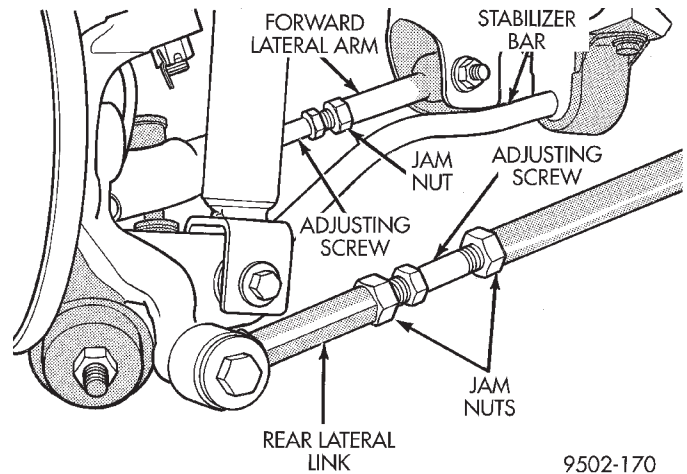

Fig. 2 Lateral Arm Adjusting Screw Jam Nuts
adjusting screw located in the forward and rear lateral links of the vehicles rear suspension (Fig. 2).
CAUTION: Do not attempt to straighten or repair a lateral link. Do not apply heat to the lateral link adjusting screws or to the jam nuts, (Fig. 2) when loosening or adjusting the lateral links.
- (3) Loosen the adjusting screw jam nuts (Fig. 2) on all 4 of the rear lateral arm adjusting screws.
(4) Rough in Rear Camber setting as close as possible to the preferred specification first, by mainly adjusting the rear lateral link adjusting screw (Fig. 2). Some adjustment of the forward lateral link adjusting screw (Fig. 2) will also be required to get Rear Camber setting to preferred specification. See Alignment Specifications in this group of the service manual for preferred specification.
(5) Adjust the forward lateral link adjusting screw (Fig. 2) to set rear Toe to preferred specification. See Alignment Specifications in this group of the service manual for preferred specification.